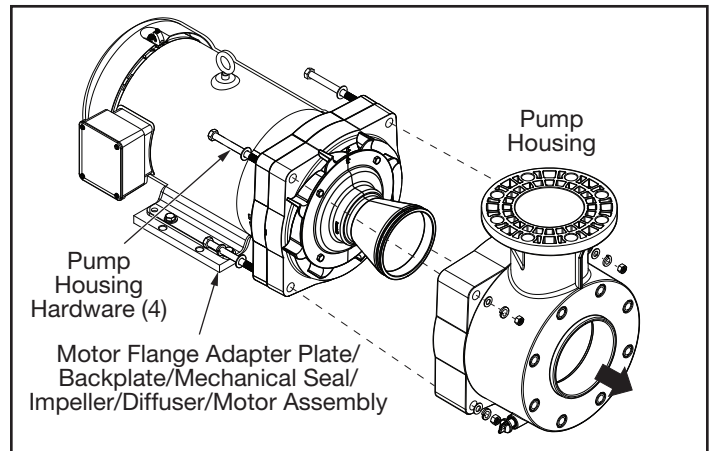

Figure 13. Remove Pump Housing
8. Using a 15/16" wrench, loosen the four (4) Hex Screws of the Pump Housing Hardware securing the Pump Housing to the Motor/ Motor Flange Adapter Plate/Backplate/Mechanical Seal/ Impeller/Diffuser assembly. See Figure 13.
9. Carefully pull the Pump Housing forward away from motor assembly. Ensure the Diffuser clears the pump housing during this process. See Figure 13.